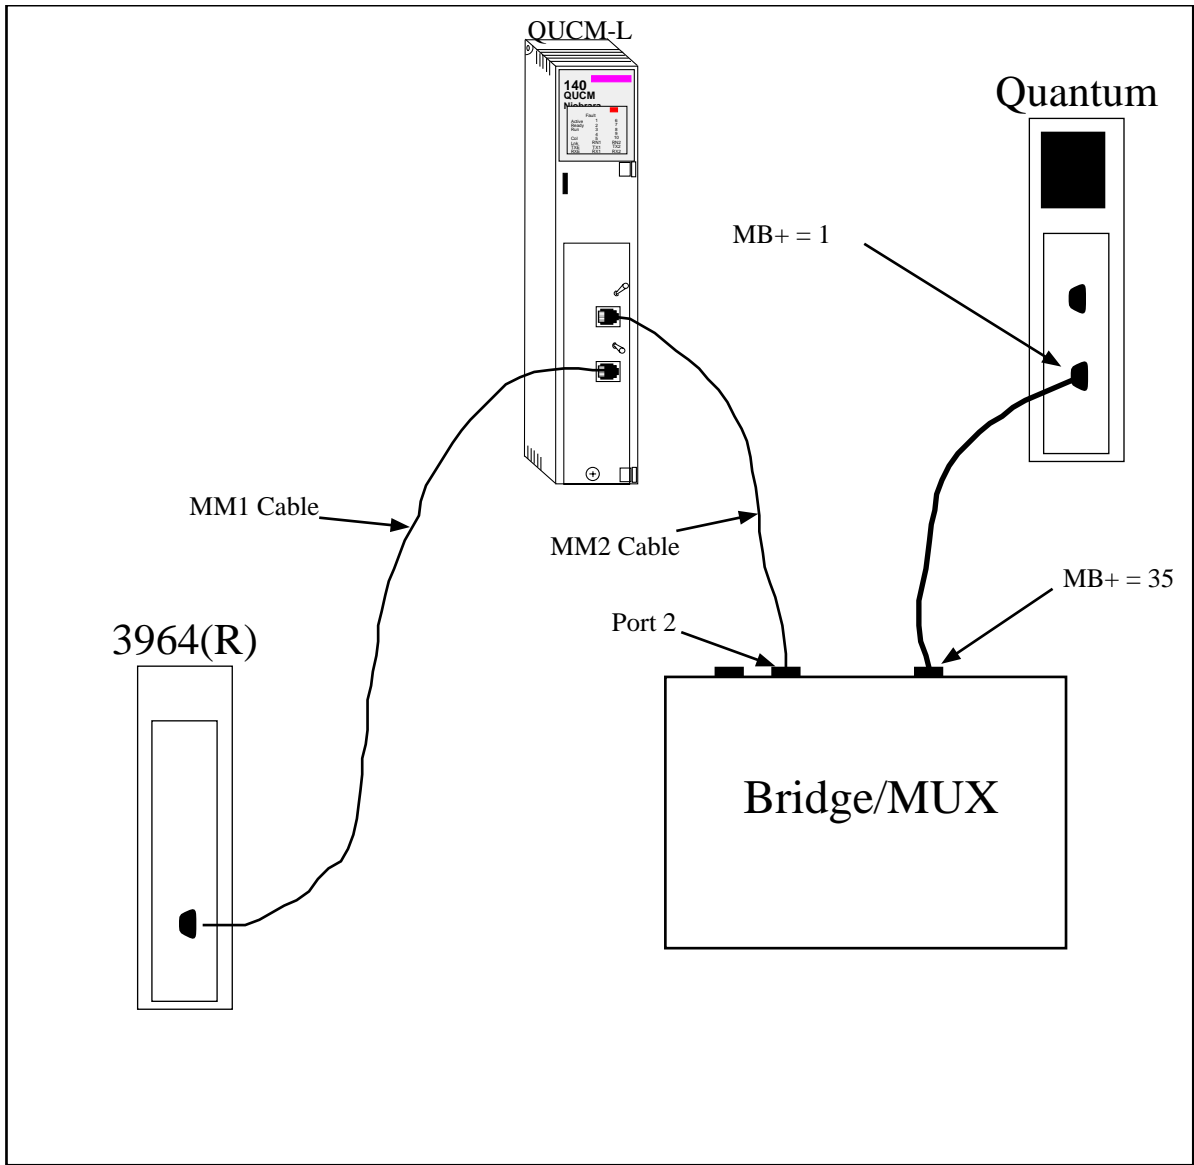

Figure 4-1 Modbus Plus Example
Figure 4-1 displays an example Modbus to 3964(R) bridge using a Modicon Bridge/Multiplexer to bridge between Modbus Plus and Modbus RTU. A Quantum PLC polls the 3964(R) device across Modbus Plus, and the QUCM converts the message to 3964(R).